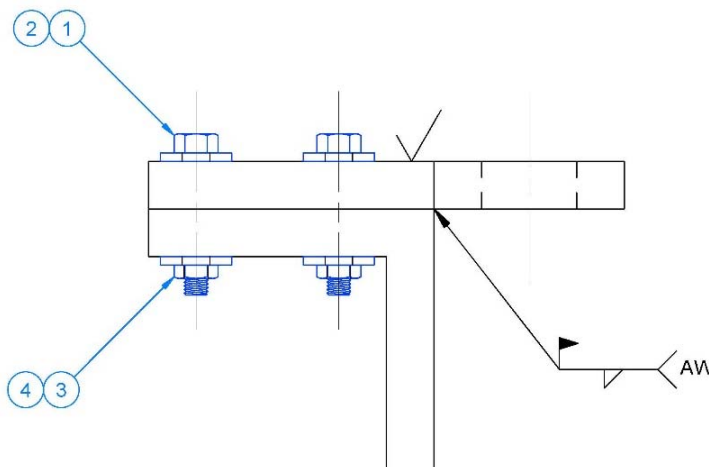

Figure 5-21
4. Insert the Balloons as shown in Figure 5-21.